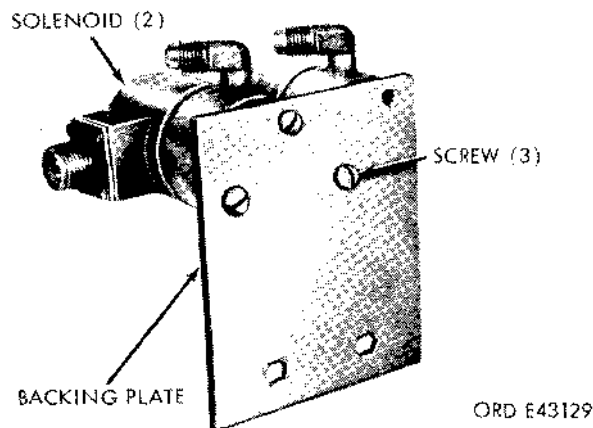

Figure 2-114. Separating two solenoids from backing plate—diesel models.
(5) Remove the remaining three screws securing the two solenoids to the backing plate (fig. 2-114).